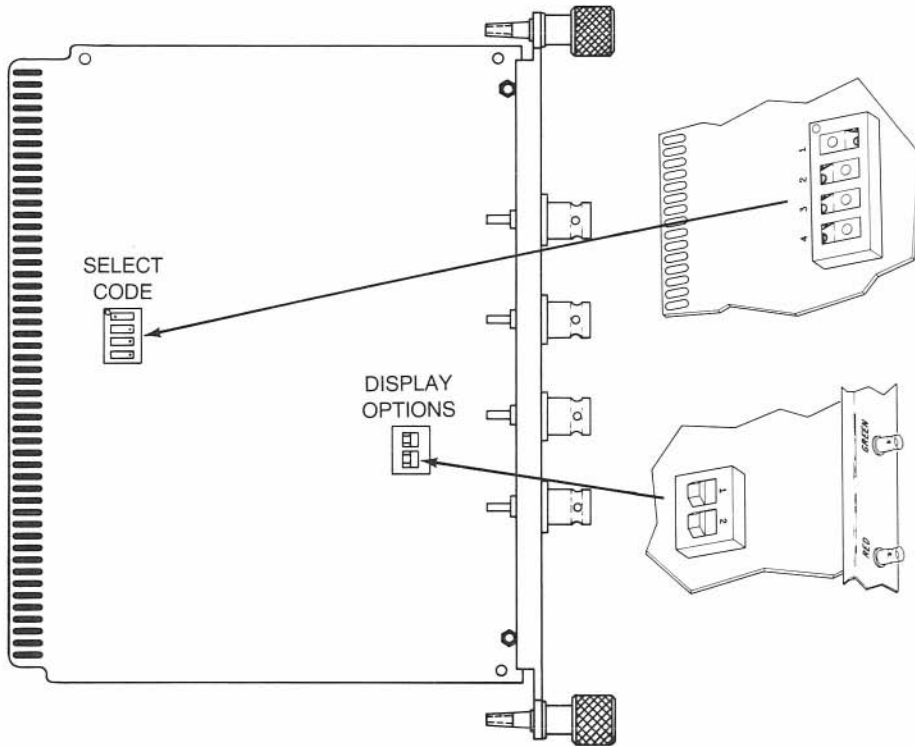

Figure 5-11. HP 98627A Color Video Output Interface Switches
- a. Find the set of four select code switches by referring to Figure 5-11.
- If connecting an HP 13279B Color Monitor to this interface, set option switch 1 for combined green and sync signal as shown in Figure 5-11.
- If connecting some other monitor, set option switch 1 *opposite* of that shown in Figure 5-11 if the monitor provides for a separate sync signal; otherwise set the interface to a combined green and sync signal by setting option switch 1 as shown in Figure 5-11.
- If connecting an HP 13279B Color Monitor to this interface, set option switch 2 to 24.8 kHz horizontal scan as shown in Figure 5-11.
- If connecting some other monitor, set option switch 2 *opposite* of that shown in Figure 5-11 if the monitor has a 15.75 kHz horizontal scan; set option switch 2 as shown in Figure 5-11 if the monitor has a 24.8 kHz scan.